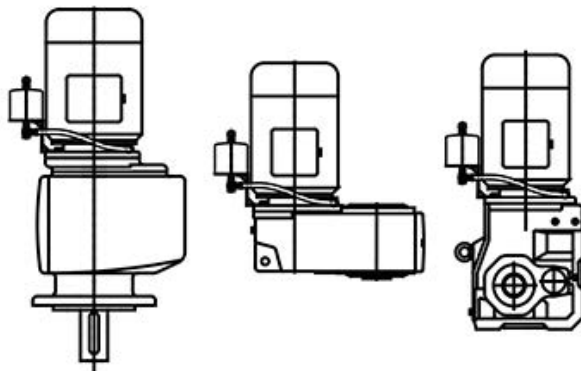

Figure 18: Position of the oil expansion chamber
The oil expansion chamber must be mounted vertically with the connection pipe facing downwards and the vent screw facing upwards. Install the container as high as possible. Suggestions for the position of the oil expansion chamber see Figure 18. Note that with the M4 configuration with terminal box position in position 2, the installation of the oil expansion chamber is not possible.
2. Install the oil expansion chamber according to Figure 18. Align it parallel to the motor shaft.